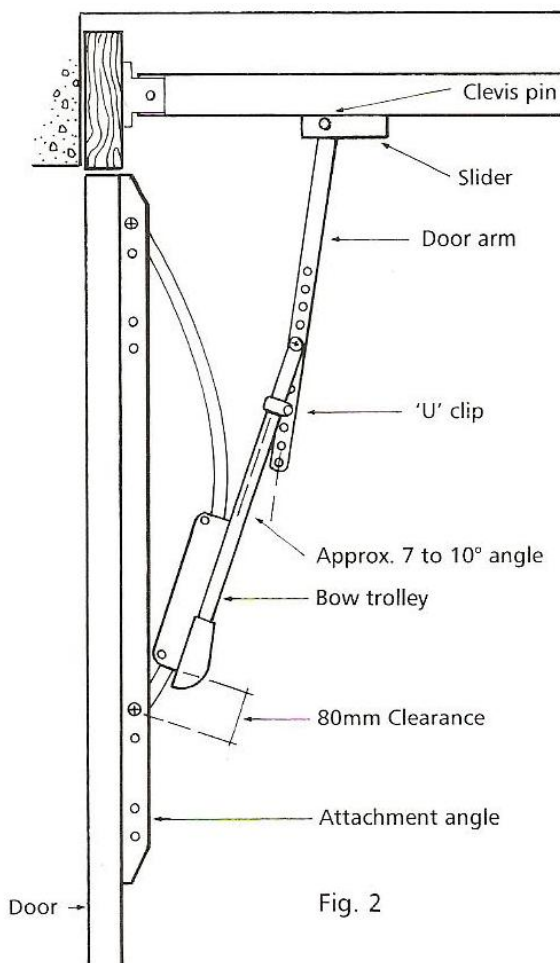

Fig. 2
- With the door in the closed position attach the door arm supplied, as shown in Fig. 2. Connect the arm to the trolley using spacers either side of the arm.